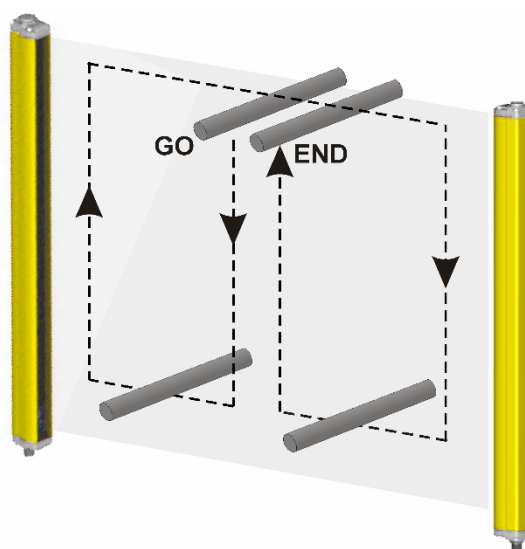

Figure 13 – Scheme for checking the function
- The AOPD remains in OSSD OFF state (➡) during beam interruption along the entire detection zone, using the suitable “Test piece” and following the Figure 13 scheme. The suitable “Test Piece” has one dimension identical with the resolution of the AOPD, a cylinder with a 14 mm diameter for a light curtain with a 14 mm resolution for example.